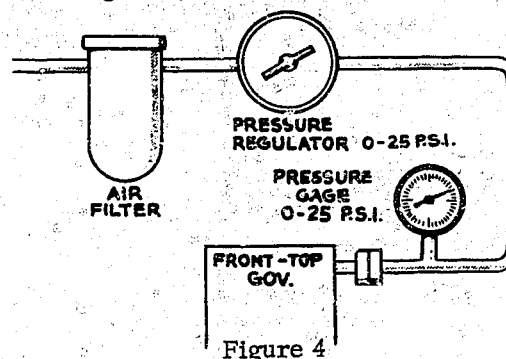

Figure 4
3. Air filter installed ahead of pressure regulator. (See Figure 4).